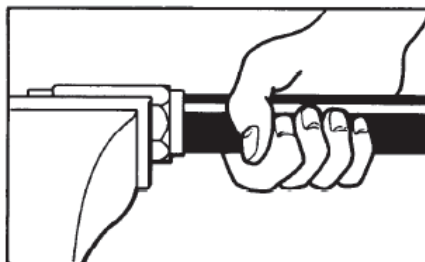

Figure 2 Removing Ferrule
- b. With the ferrule clamped in the vice, remove the hose by turning it in a clockwise direction (Figure 2).